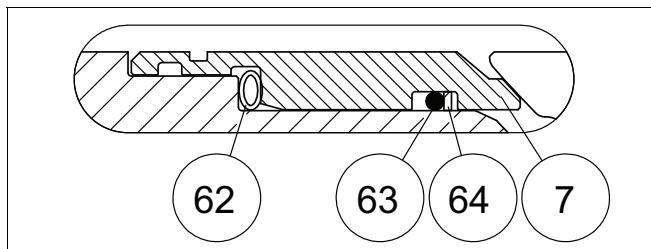

Fig. 11 S seat
- Place the back seal (O-ring) (63) into the groove in the seat. See Figure 11.
- Place the back-up rings (64) made of PTFE strips at the side of the O-ring. To ensure that the seam becomes flexible, the strip must have slanted ends.
- Place the spring (62) on the seat (7). Connect the ends of the spring. NPS06 has 2pcs spring (62) separated with spacer ring (62A).